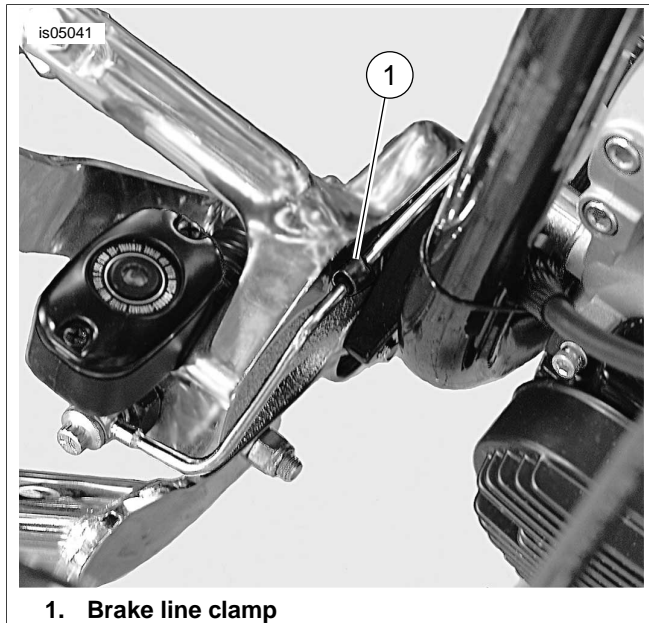

Figure 2. Brake Line Clamp
3. See Figure 2. Install the clamp (1) around the brake line and tighten fastener to 30 in-lb (3.4 Nm)